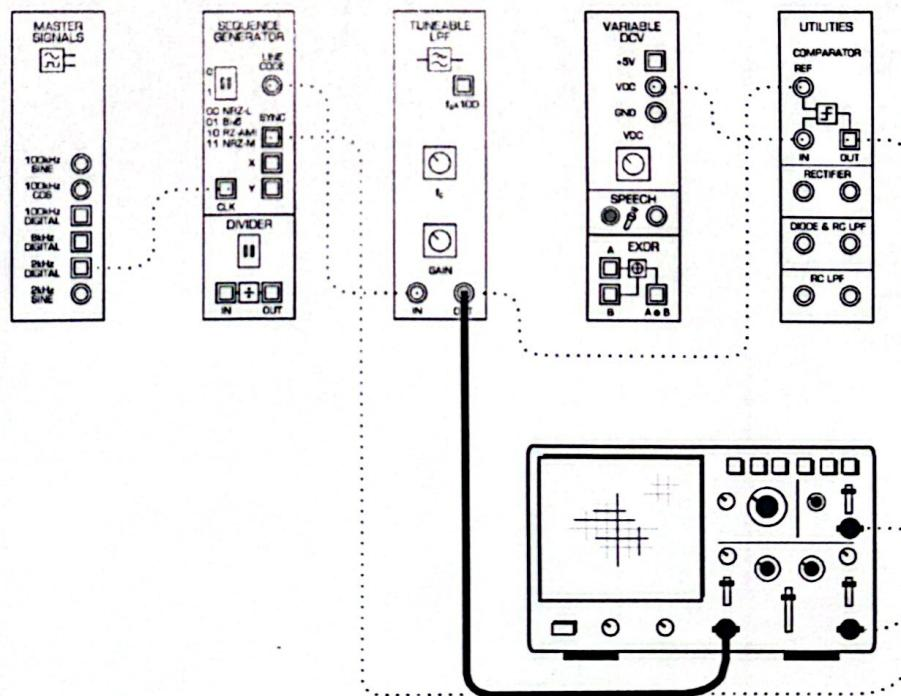

Figure 13
40. Compare the restored digital signal with the bandwidth limited digital signal by modifying the set-up as shown in Figure 13 below.